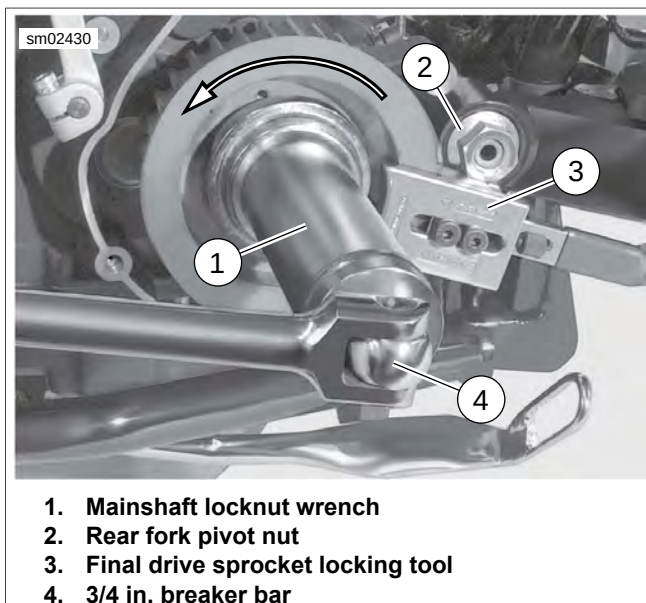

Figure 5-38. Sprocket Nut Removal (Typical)
- b. See Figure 5-38. Secure sprocket using FINAL DRIVE SPROCKET LOCKING TOOL (Part No. HD-46282-A) (3). Final drive sprocket locking tool must rest against lower portion of rear fork pivot nut (2).